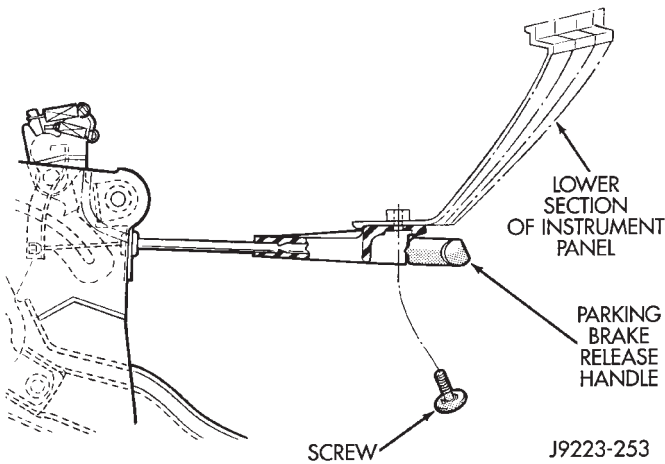

Fig. 8 Parking Brake Remove/Install - XJ
- (1) Remove parking brake retaining screw from lower instrument panel (Fig. 8).